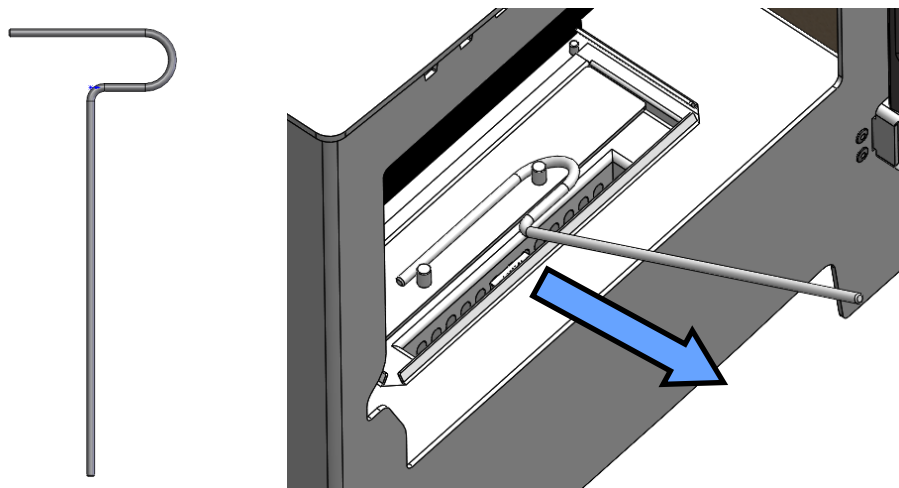

Fig. 15.
- Take the hook end of the operating tool and engage onto the two pins of the closure plate. See Fig. 15.